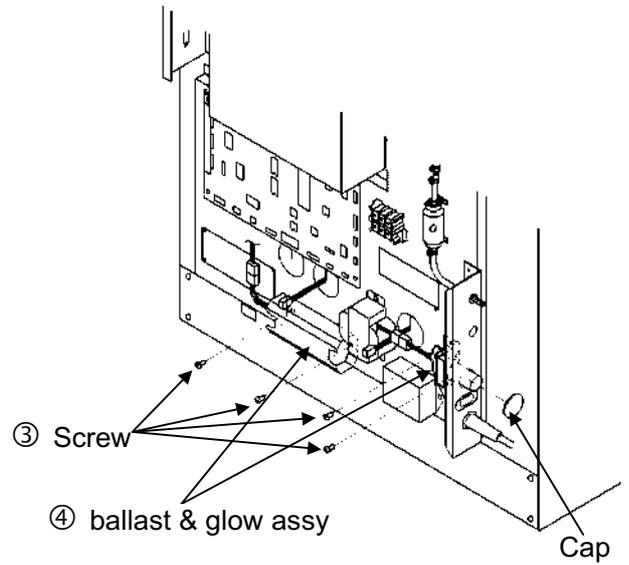

Fig.7
8. Remove a cap shown in Fig. 7.
By using 4 screws enclosed with this kit, fix the ballast/glow assy as shown in Fig. 7.